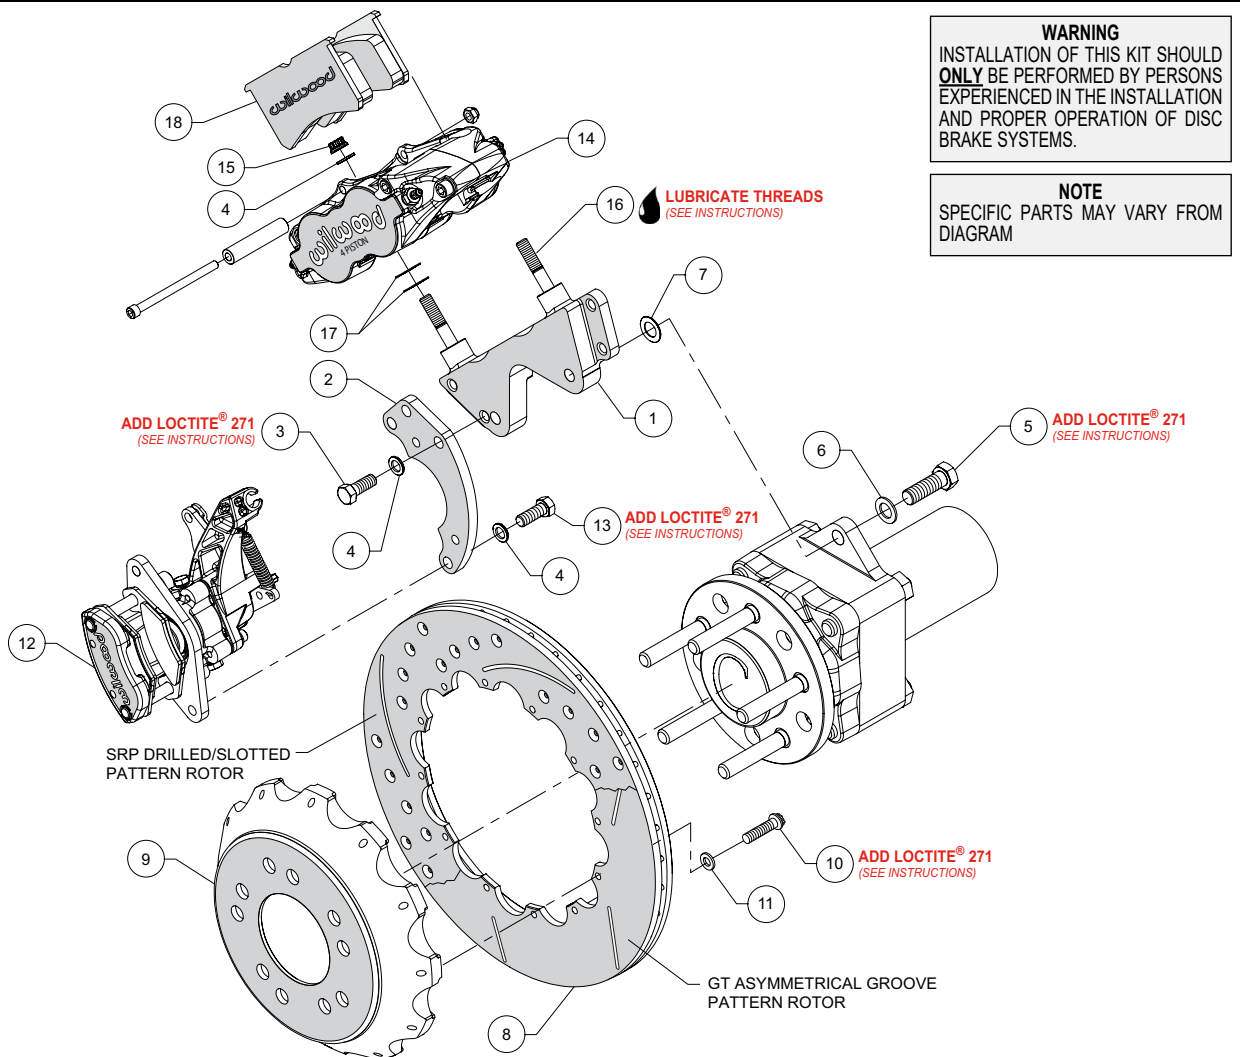
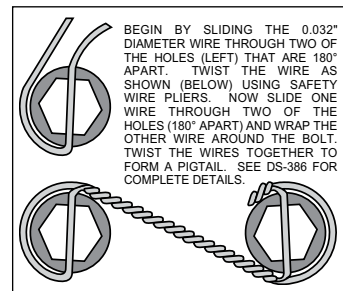

Figure 1. Typical Installation Configuration
Figure 3. Safety Wire Diagram
NOTE: Numbers in parenthesis refer to the parts list and Figure 1 on the preceding pages.
- Attach the MC4 flat caliper bracket (2) to the radial mount caliper bracket (1) using bolts (3) and washers (4) as shown in Figure 1 and Photo 1. Apply red *Loctite*® 271 to the bolt threads and torque to 35 ft-lbs. **NOTE:** The MC4 Bracket may be mounted on either end of the radial mount bracket.
- The caliper mount bracket assembly (1/2) should initially be installed with clean, dry threads on the mounting bolts. Orient the bracket assembly as shown in Figure 1, and Photo 2, and install using bolts (5) and washers (6). Initially place one .032" thick shim (7) on each bolt between the bracket and axle hub, Figure 1. Temporarily tighten the mounting bolts. **NOTE:** The bracket must fit squarely against the mount bosses on the axle hub. Inspect for interference from casting irregularities, machining ridges, burrs, etc. Later, after the caliper alignment has been checked, the mount bolts will be secured using red *Loctite*® 271.
- Orient the rotor (8) and the hat (9) as shown in Figure 1 and Photo 3. Attach rotor to hat using bolts (10) and washers (11). Apply red *Loctite*® 271 to the bolt threads and torque to 155 in-lb using a criss-cross pattern. For an added measure of security, the bolts may be safety wired using standard 0.032 inch diameter stainless steel safety wire as shown in Figure 3. Please refer to Wilwood's data sheet DS-386 (available at www.wilwood.com/Pdf/DataSheets/ds386.pdf) for complete safety wire installation instructions.
- Lubricate the caliper mounting studs (16) with lightweight oil. Initially place two .035" thick shims (17) on each stud as shown in Figure 1 and Photo 5. Mount the caliper (14) onto the bracket (1) using lock nuts (15) and washers (4), Figure 1. Temporarily tighten the lock nuts and view the rotor through the top opening of the caliper. The rotor should be centered in the caliper, Photo 6. If not, adjust by adding or subtracting shims (7) between the bracket (1) and the mounting bosses. Always use the same amount of shims on each of the two mounting bolts. Once the caliper alignment is correct, remove the bracket mounting bolts (5) one at a time, apply red *Loctite*® 271 to the threads, and torque to 77 ft-lb.
- Mount the parking brake caliper (12) onto the lower section of the caliper mounting bracket assembly (1/2) using bolts (13) and washers (4), as shown in Figure 1 and Photo 10. Apply red *Loctite*® 271 to bolt threads, and torque to 30 ft-lb.